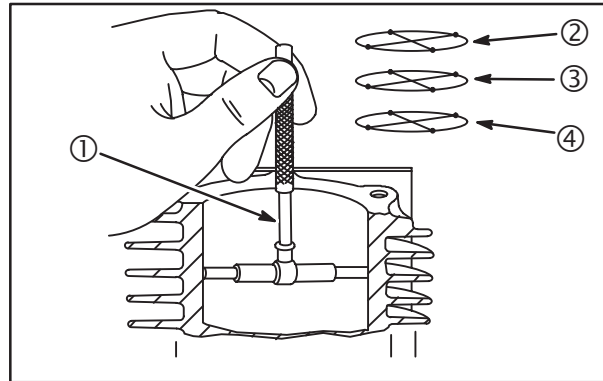

Fig. 2
3. Use Telescoping Gauge #19404 (1) and Dial Caliper #19199 to check cylinder bores for wear. Measure cylinder bore at 6 points as shown, **Fig. 2**. Measure each cylinder bore at 90° angles near the top (2), middle (3) and bottom (4) of piston ring travel as shown.